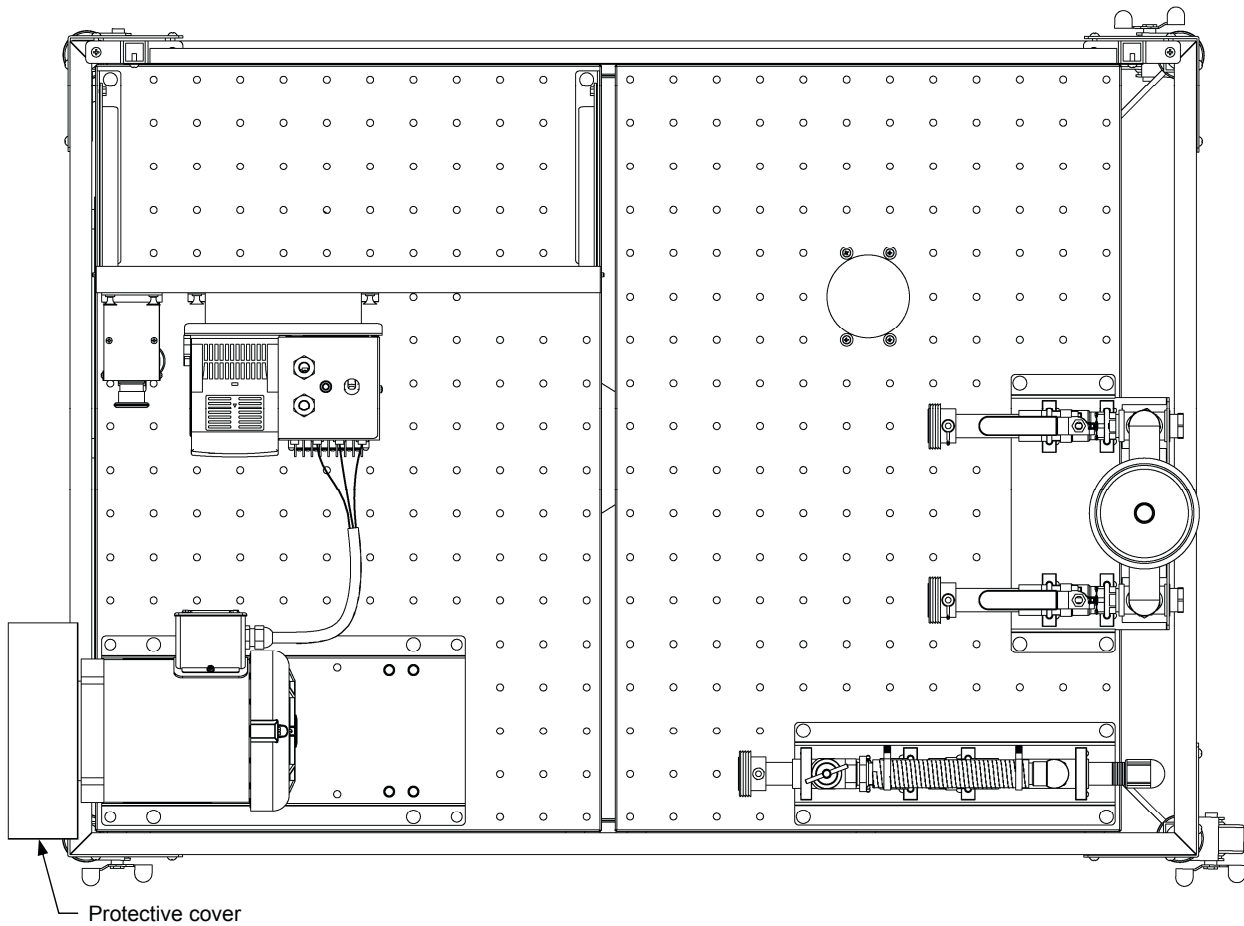

Figure 7. Circuit used to perform FFT spectrum and waveform analyses.
1. Install the Emergency Stop Station, Variable Speed Drive, Pump Universal Base, and motor on the Pump Bench as shown in Figure 7.